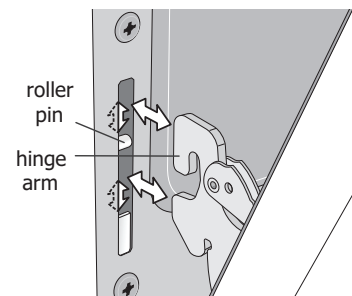

Figure 10: Remove door position
4. Pull the bottom of the door toward you while rotating the top of the door toward the appliance to completely disengage the hinge levers (Figure 10).
1. Firmly grasp both sides of oven door along the door sides. Do not use the oven door handle (Figure 10).
2. Hold the oven door at the same angle as the removal position. Carefully insert the hinge levers into the oven frame until you feel the hinge levers are seated into the hinge notches. The hinge arms must be fully seated into the hinge notches before the oven door can be fully opened. (Figure 10).